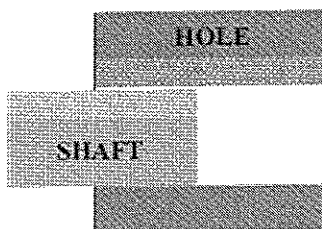
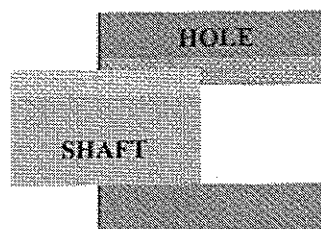

Fig. 3a
Fig. 3b
3. Mention the type of fit for Fig. 3a & Fig. 3b.